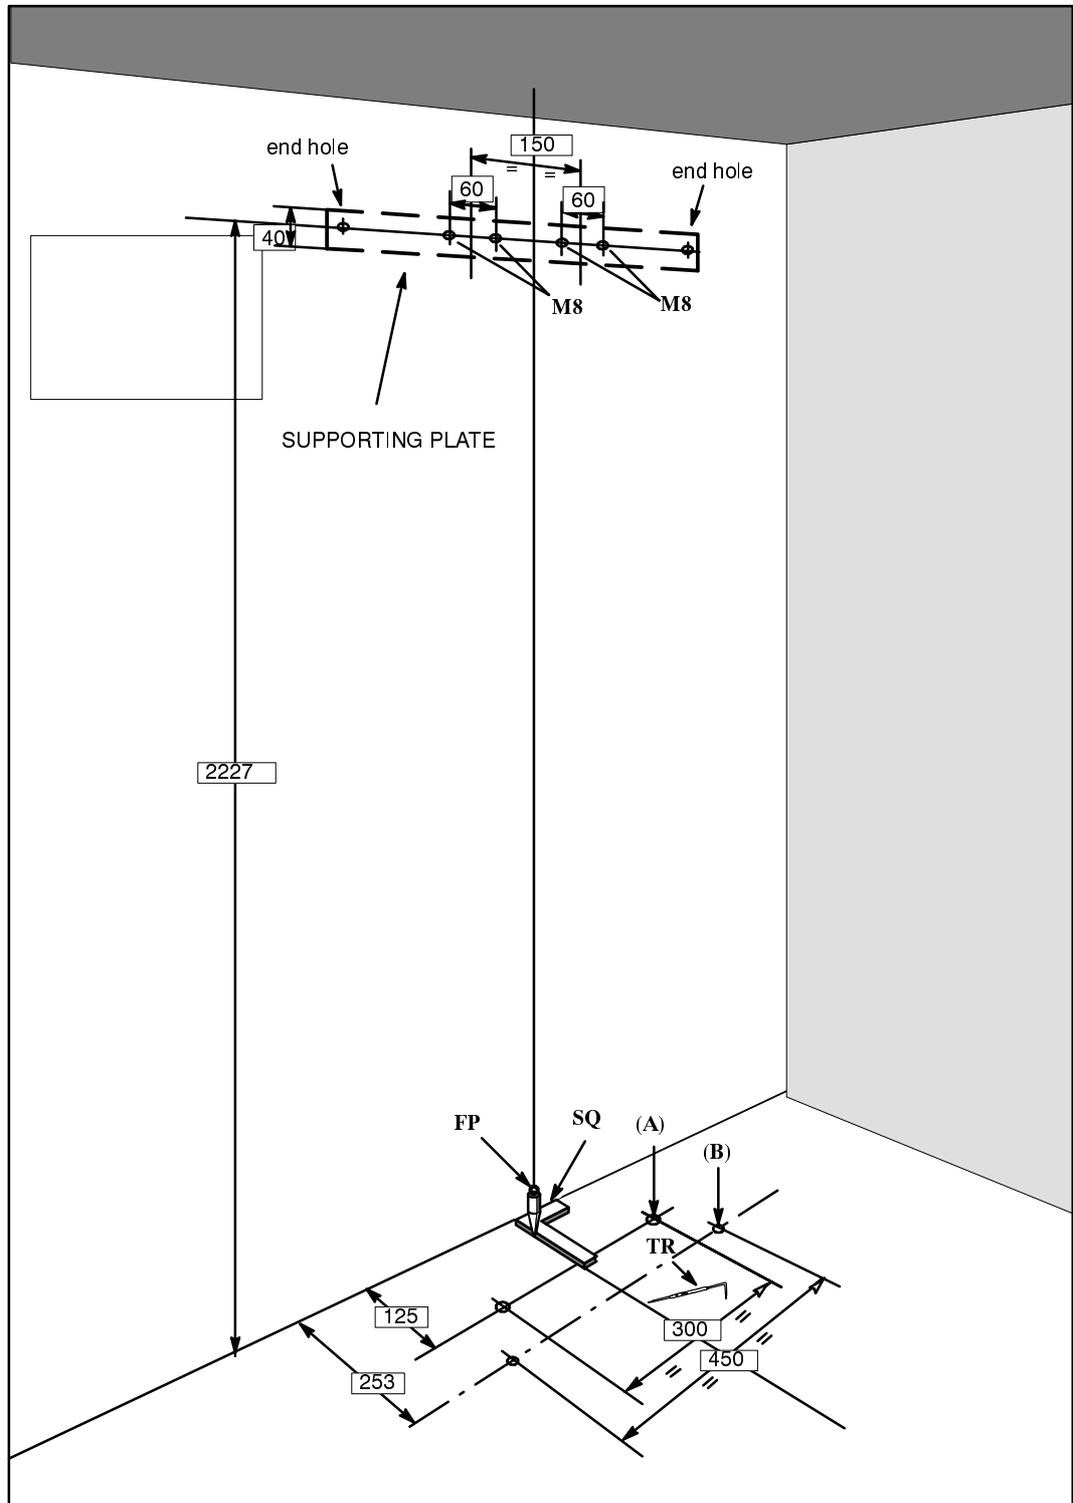

Fig. CC-5 Rack wall mounting – location of holes
- for fastening fixing plates to wall (not supplied) (Fig. CC-5)
1. Locate and mark the position on the wall for the two holes for the expanders which will fasten the supporting plate in position at 2227mm above the floor level (Fig. CC-5).
4. Using the plumb line and the square locate and mark on the floor the positions for the fixing holes 'A' for the rack base and 'B' for the alignment bar, if required (Fig. CC-5).
1. Using the plumb line and the square locate and mark on the floor the positions of holes A for fixing the racks and holes B for installing the alignment bar, if required (Fig. CC-5).